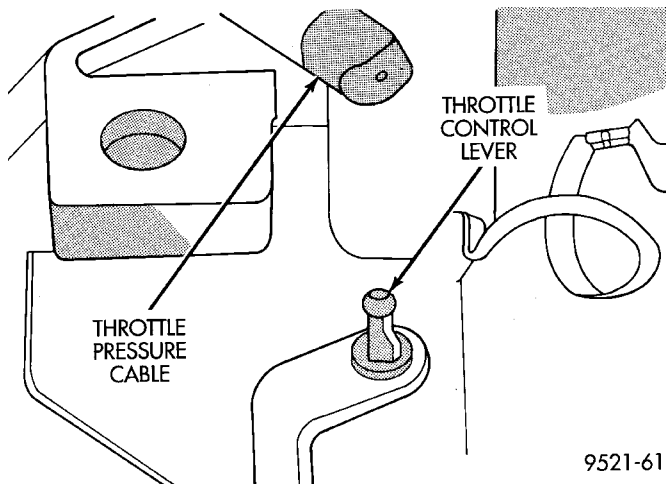

Fig. 17 Throttle Pressure Cable And Lever
(1) Unsnap the throttle pressure cable end at the throttle control lever at transaxle (Fig. 17).